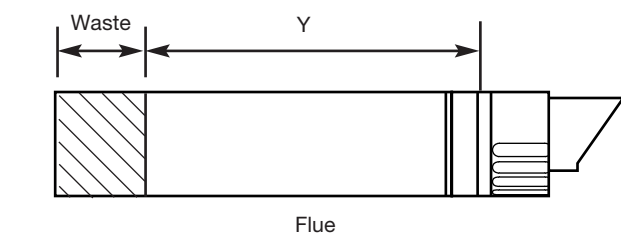

Fig. 23
5. Mark dimension 'Y' on the flue as shown (Fig. 23). Carefully cut the waste material from the flue, ensuring that the ducts are square and free from burrs.